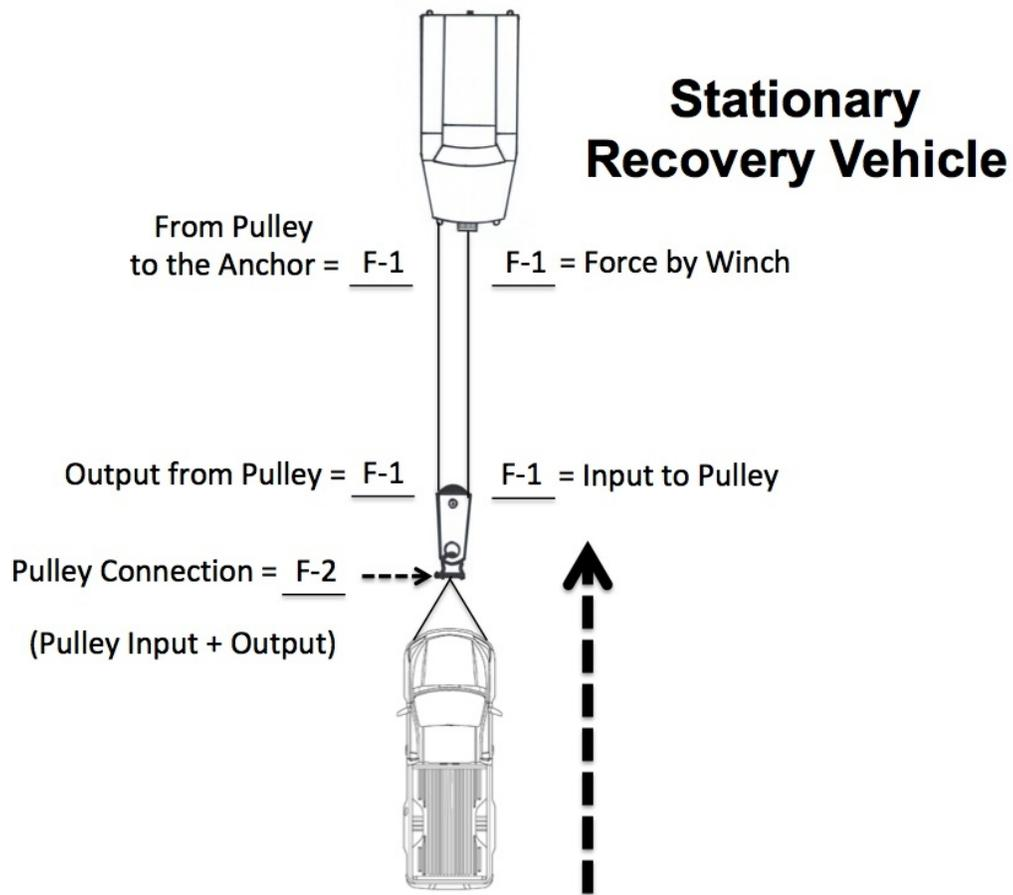

FIGURE 3
Step 4: Now, fill in the blanks as shown in **Figure 3**. You have the winch producing "1 FORCE." That same FORCE travels through the line to the input side
of the pulley. Whatever FORCE enters the pulley, that same FORCE will exit the pulley. To determine the FORCE at the Pulley Connection, you simply ADD the Input and Output FORCES of the Pulley:  $F-1 + F-1 = F-2$ . Pulleys are force multipliers, so the pulley connection has a F-Value of 2. The mechanical advantage is the total FORCE connected to the stuck vehicle (a force of 2 in this example) compared to the FORCE generated by the winch (it's always a force of 1). Therefore, the simple winch-rigging set-up in **Figure 3** generates a 2:1 Mechanical Advantage.